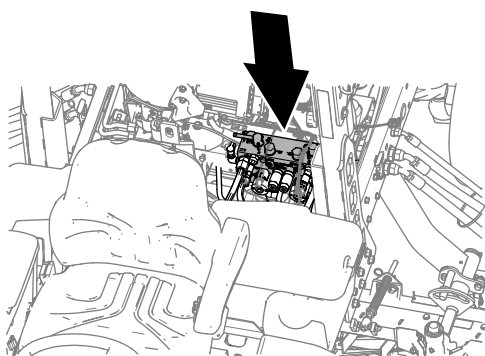

Figure 120
- Rotate the front, rear, or both backlap levers to the R (backlap) position (Figure 120).